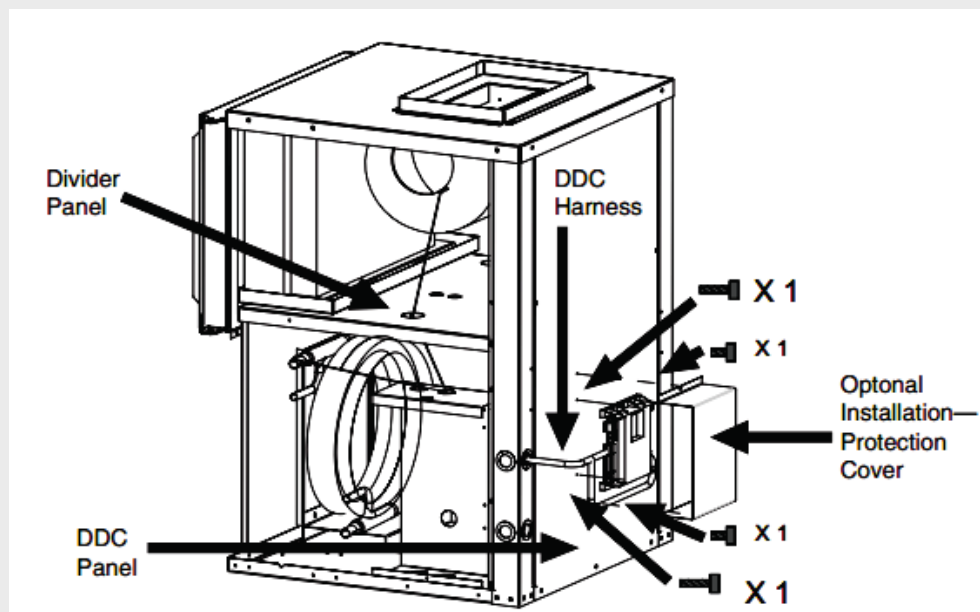

Fig. 133
- ▶ Align the controller with the pilot holes as shown (Fig. 133)
Use the provided wire tie to secure the sensor to the strap. Fasten the screw by using a screw driver. Do not use a drill as it may strip the screw. Remove the cork insulation and route the sensor wire leads to the electrical box along with the existing wires through the knock out available on the blower divider panel (Fig. 133).